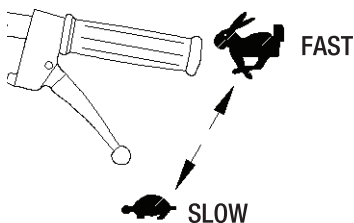

Figure 9
- Hold the throttle trigger fully depressed in fast position. (See Figure 9)
**NOTICE:** This cultivator is equipped with a centrifugal clutch, so the tines will not turn until the engine speed is increased. To increase the engine speed, lift up on the throttle trigger. (See Figure 9) To slow the engine down, slowly release the throttle trigger. Completely releasing the throttle lever will return the engine to idle and will stop the tines from rotating.